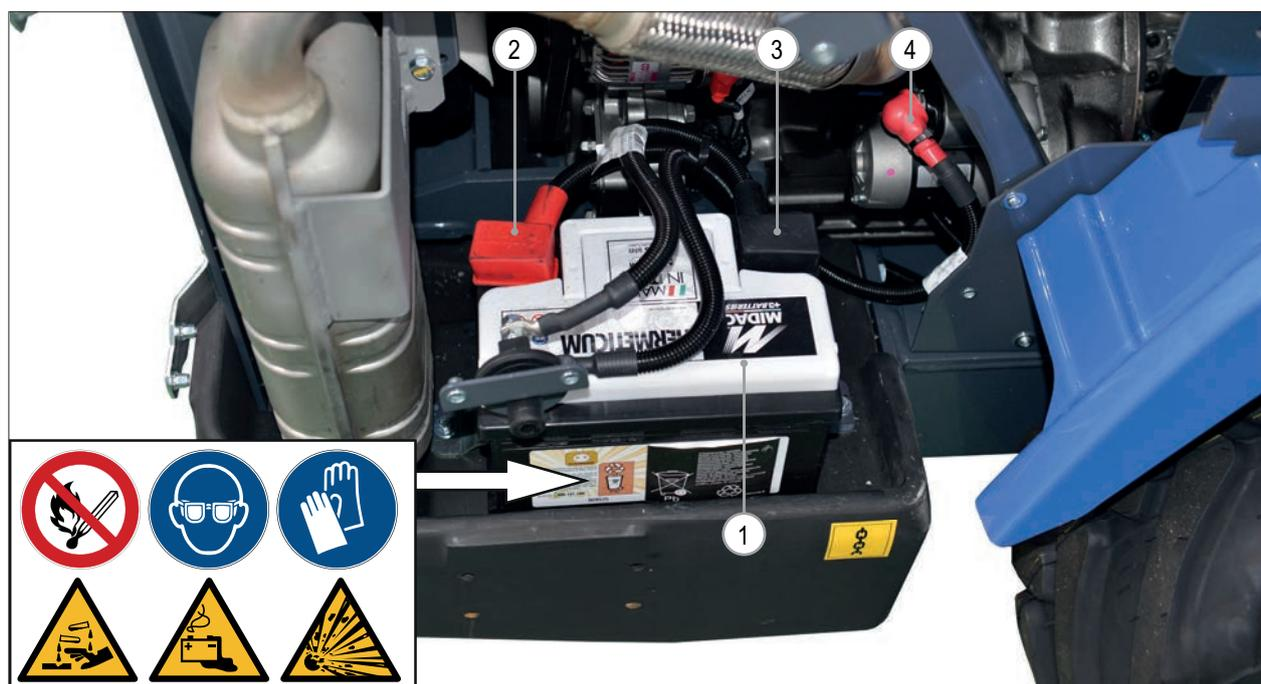

FIG. 44
- The battery (FIG. 44 - Ref. 1) is intact and not leaking.
- Check power cable connections (FIG. 44 - Ref. 2 - 3) for signs of leaking, corrosion, or damage.